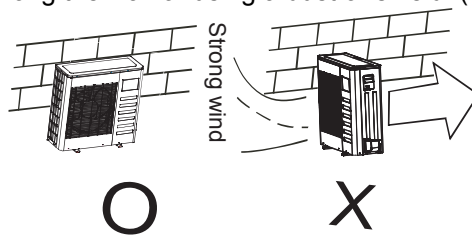

Fig. 6-1
- In the case that the installation place is exposed to strong wind such as a seaside, make sure the fan operating properly by putting the unit lengthwise along the wall or using a dust or shield. (Refer to Fig.6-1)